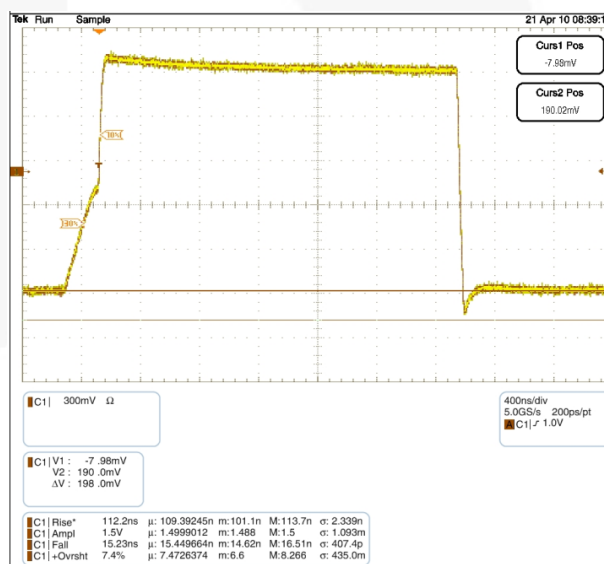

Figure 5. FXMA2102 Waveform C: 600 pF, R_{PU}: 2.2 K
ports until either of the port's V_{CC}/2 thresholds are reached. After the RC time constant has reached the V_{CC}/2 threshold of either port, the port's edge detector triggers both dynamic drivers to drive their respective ports in the LOW-to-HIGH (LH) direction, accelerating the rising edge. The resulting rise time resembles the scope shot in Figure 5. Effectively, two distinct slew rates appear in rise time. The first slew rate (slower) is the RC time constant of the bus. The second slew rate (much faster) is the dynamic driver accelerating the edge.
The FXMA2102 dynamic drivers have enough current sourcing capability to drive a 400 pF capacitive bus. This is beneficial for instances when an I²C buffer / repeater is required. The I²C specification stipulates a maximum bus capacitance of 400 pF. If an I²C segment exceeds 400 pF, an I²C buffer / repeater is required to split the segment into two segments, each of which is less than 400 pF. Figure 5 is a scope shot of an FXMA2102 driving a lumped load of 600 pF. Notice the (30% - 70%) rise time is only 112 ns ($R_{PU} = 2.2\text{ K}$). This is well below the maximum edge rate of 300 ns. Not only does the FXMA2102 drive 400 pF, but it also provides excellent headroom below the I²C specification maximum edge rate of 300 ns.